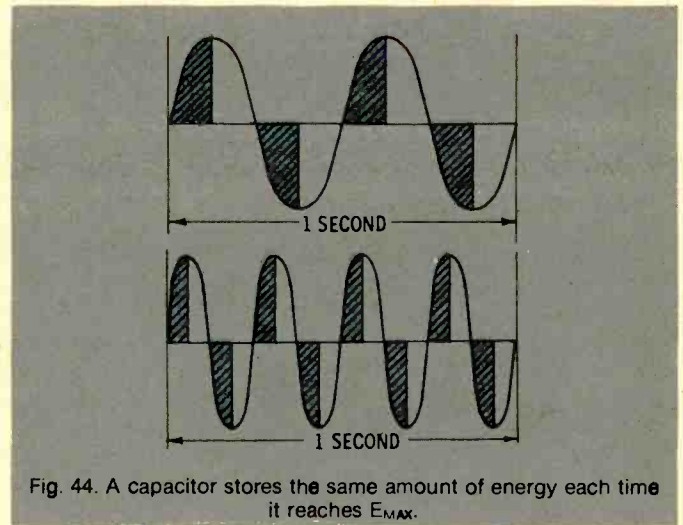

Fig. 44. A capacitor stores the same amount of energy each time it reaches E_{MAX} .
What happens when the frequency of the power source is doubled? If the peak voltage (E) is unchanged, the capacitor will charge every half cycle to the same amount as before. But, it will have to do this twice as fast because the frequency is doubled. This means that the same amount of energy must flow into the capacitor in only half the time. See Fig. 44. And, since the voltage is the same, we must have twice the current to supply this same amount of total energy.